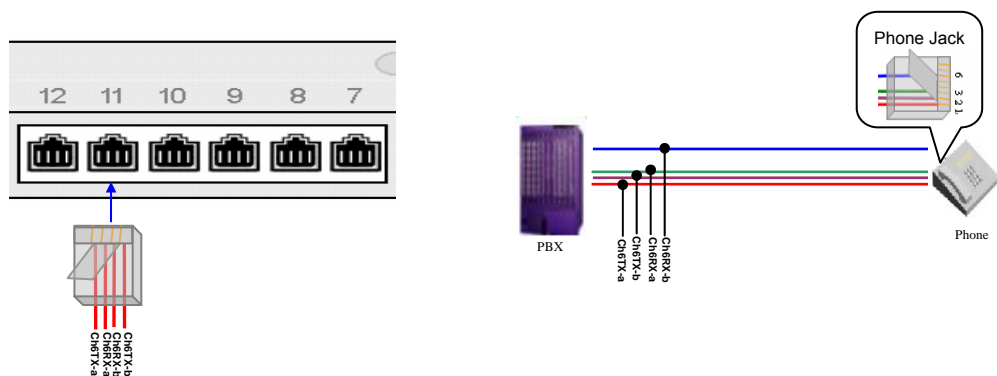

Figure 2-8
- 1) eON and AVAYA-4W digital phones: See Figure 2-8 below. In parallel, connect the 1st and 2nd leads of the communication line between the PBX and a phone to the 1st and 4th pins of each odd-numbered RJ11 jack on the adapter, and the 3rd and 6th leads to the 2nd and 3rd pins.